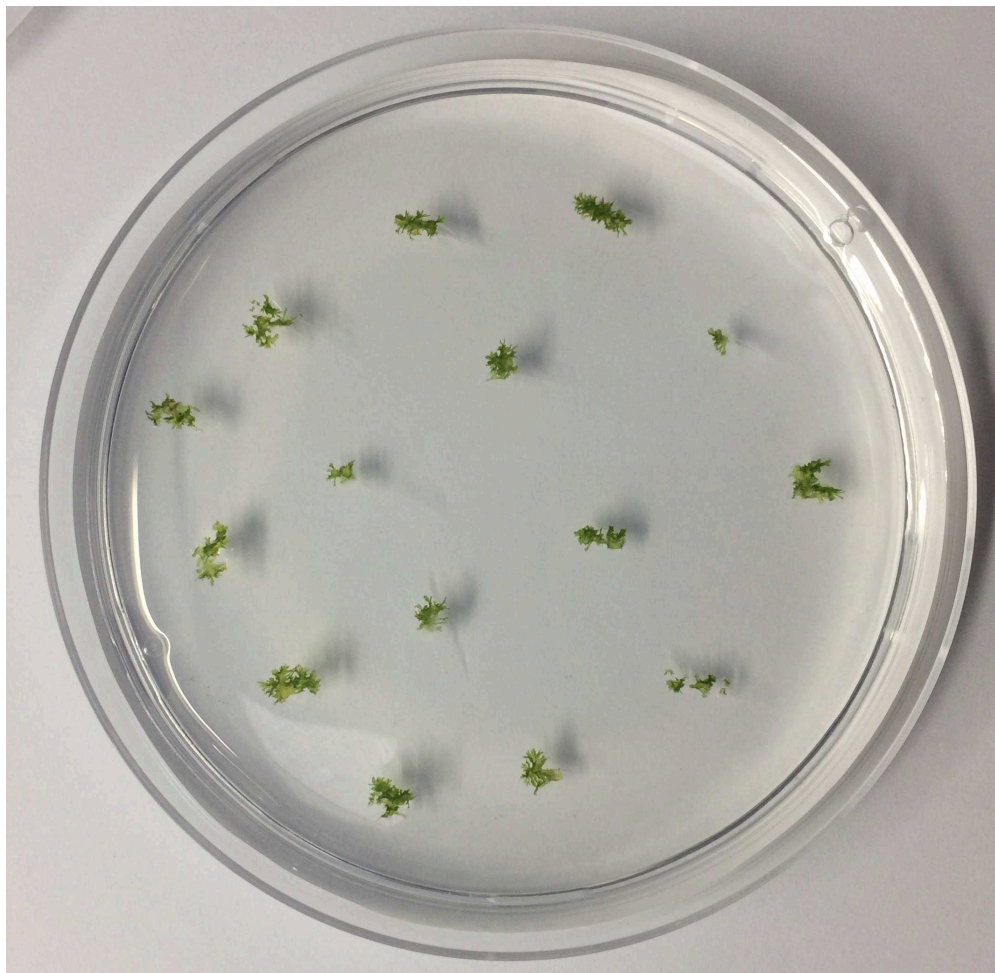

Figure 1:
- 1 **IMPORTANT:** The light intensity used to cultivate *A. agrestis* tissue is a very critical factor for successful transformation. Tissue should be grown under low light intensity (3-5 $\mu\text{mol m}^{-2}\text{s}^{-1}$) and should have a morphology similar to the tissue in **Figure 1**
- Collect approximately 1 g of thallus tissue grown for 4-6 weeks under low light intensity (approximately 0.1 g of tissue per petri dish - 10 petri dishes in total). **Figure1 and Figure 4.1**